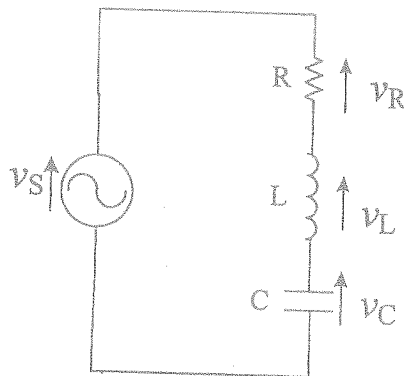

Figure Q2 (a)(iii)
- b) Figure Q2 (b) shows a three-phase, star connected source connecting to a delta connected load through a transmission line. The phase voltage of the generator is 120 V, and the line impedance is $0.1 + j 0.15 \Omega$. The phase impedance of the load is $12 - j 9 \Omega$.